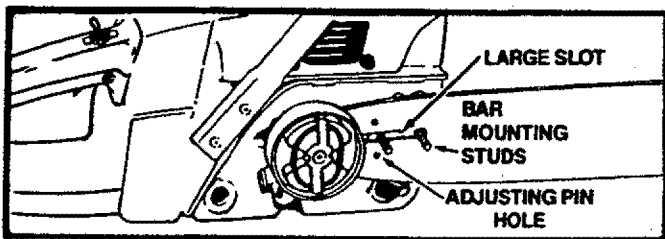

Figure 8
2. Mount the slotted end of the guide bar over the bar mounting studs and the small round hole over the adjusting pin. Figure 8. Turn the adjusting screw as needed to position the adjusting pin.